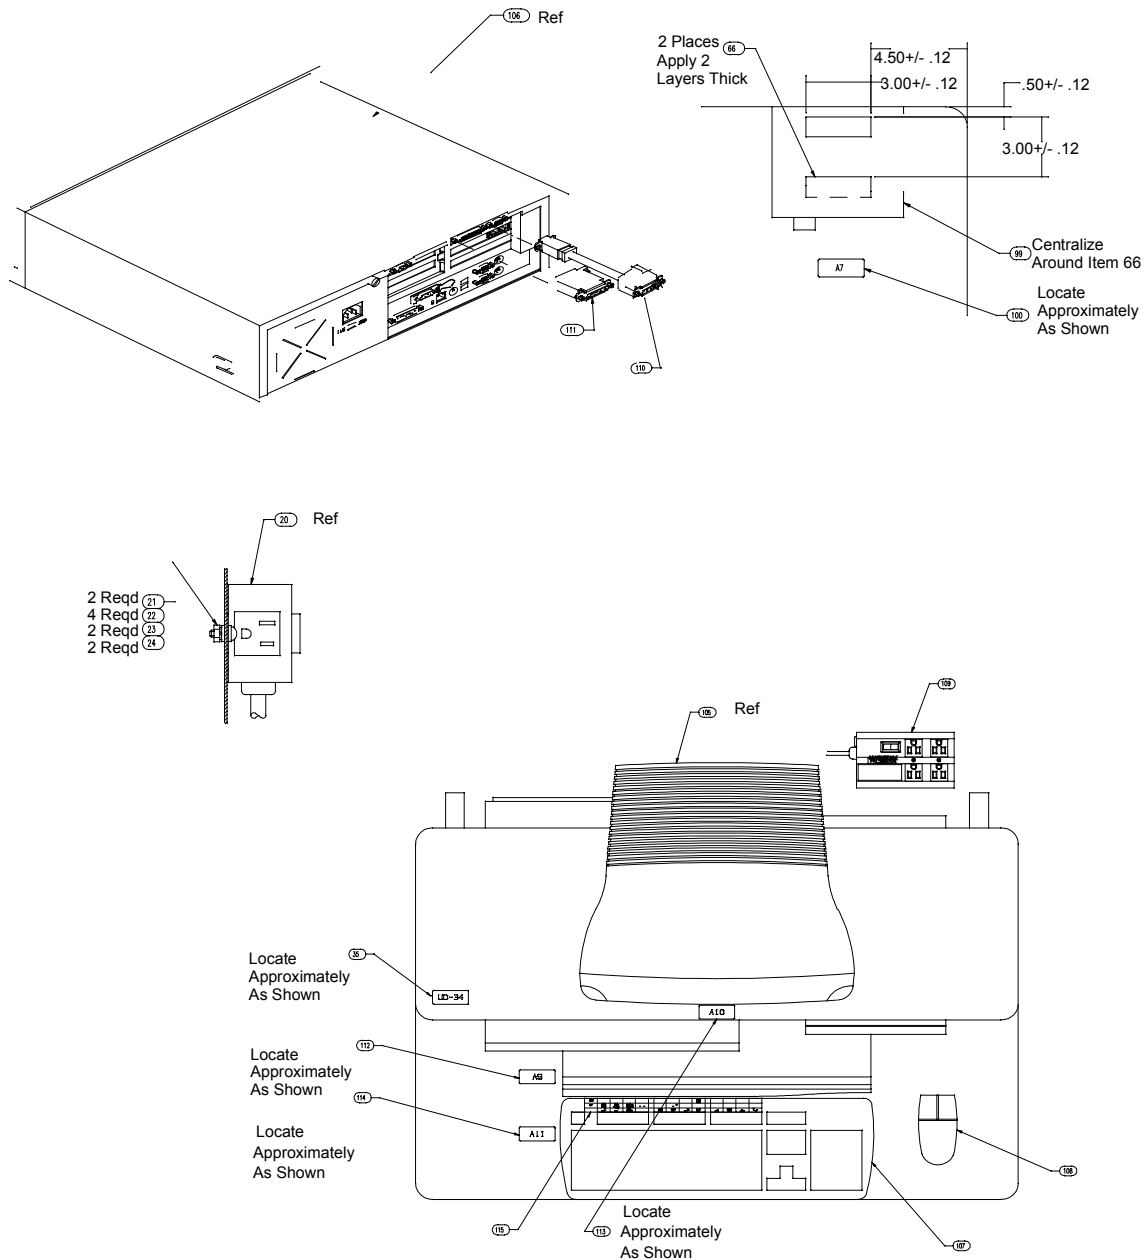

Figure 10 Detail Listing
- (k) Connect the keyboard to the CPU keyboard jack and install the keyboard function key template (mask)(item 115) on the top of the keyboard. (Orange lower port)(See Figure 10)
- (l) Connect the CPU power cord between the CPU (item 106) and the surge suppressor (Isotel4)(item 109).
- (t) Connect Cable W263 between the Demarcation Frame (to RPG) and surge suppressor (A6)(item 92).
- (u) Connect Cable W261 between the surge suppressor (A6)(item 92) and the LEASE LINE port of the modem (UD27)(item 55)
- (v) Connect Cable W221 between the modem (item 55) DTE and port of the statmux (UD26)(item 12).
- (w) Place the new UCP designation plates A9, A10, and A11, as shown in Figure 10.
(1) Perform the following RPG shutdown procedures: